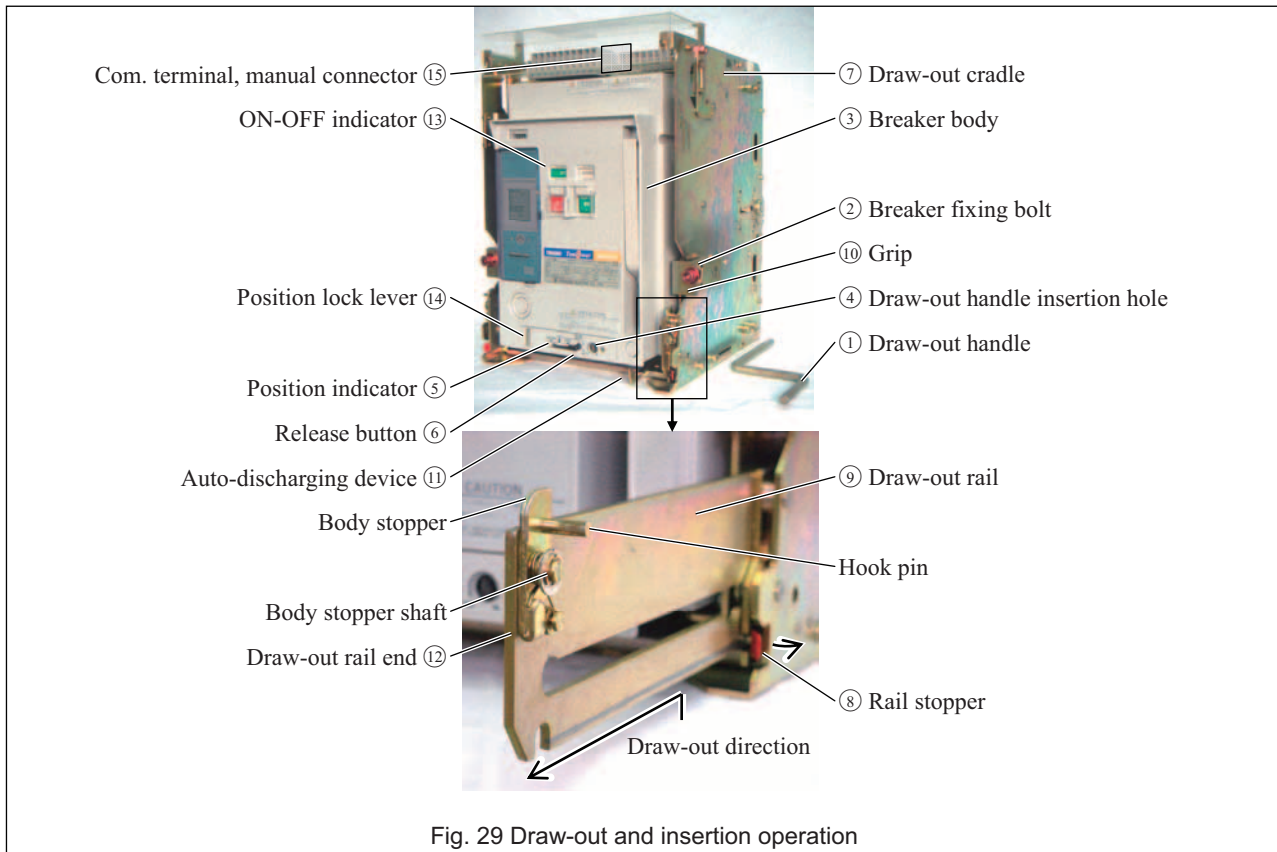

Fig. 29 Draw-out and insertion operation
- 1) Open the ACB. (If the ACB remains closed, the draw-out handle (Fig. 29 ①) cannot be inserted).
- 2) Loosen the breaker fixing bolts (Fig. 29 ②), if used, to unlock the breaker body (Fig. 29 ③).
- 3) Unlock the position lock lever (Fig. 29 ⑭) if locked. See section 4-5.
- 4) Insert the draw-out handle into the draw-out handle insertion hole (Fig. 29 ④). And slowly turn counterclockwise until the handle cannot be turned. The position indicator (Fig. 29 ⑤) shows “TEST”.
- 2) Press the release button (Fig. 29 ⑥). The release button will be locked depressed.
- 4) Insert the draw-out handle into the draw-out handle insertion hole (Fig. 29 ④). And slowly turn counterclockwise until a freewheeling sound is heard. The position indicator (Fig. 29 ⑤) shows “ISOLATED”. Turning the draw-out handle will unlock the release button.
- 1) Make sure the draw-out cradle (Fig. 29 ⑦) is secured with mounting screws.
- 2) Unlock the position lock lever (Fig. 29 ⑭) if locked. See section 4-5.
- 3) Push the rail stoppers (Fig. 29 ⑧) outward on both sides of the draw-out cradle to unlock the draw-out rail (Fig. 29 ⑨), and then uphold and pull out the rail until it stops. The draw-out rail will be locked again by the stoppers. (The breaker body cannot be drawn out unless the rail is locked).
- 4) Holding both the grips (Fig. 29 ⑩), draw out the breaker body until it stops.
- If the ACB is equipped with the communication terminal block, pull out the hand connector (Fig. 29 ⑮) from the communication terminal block while drawing out the breaker body. Make sure the hand connector and control wire of the ACB are not snagged when drawing out the breaker body again.
- If the ACB is equipped with an optional auto-discharging device (Fig. 29 ⑪), the closing springs of the ACB will be automatically discharged with a mechanical sound. This sound does not mean a malfunction.
- 5) Use an optional lifter or lifting plate to transfer the breaker body (Fig. 29 ③) to a safe place. Refer to section 2-1-2.
- 2) Push the rail stoppers (Fig. 29 ⑧) outward on both sides of the draw-out cradle to unlock the draw-out rail (Fig. 29 ⑨), and then uphold and pull out the rail until it stops. The draw-out rail will be locked again by the stoppers. (The breaker body (Fig. 29 ③) cannot be inserted unless the rail is locked).
- 4) Make sure the breaker fixing bolts (Fig. 29 ②), if fitted, are loosened and not arrest the breaker body.
- 5) Make sure the hand connector (Fig. 29 ⑮) of the communication terminal block, if fitted, is so positioned that it does not get caught between the breaker body and the draw-out cradle.
- 6) If the ACB has the breaker fixing bolts (Fig. 29 ②), make sure the bolts are loosened and, holding both the grips (Fig. 29 ⑩), firmly push the breaker body into the draw-out cradle.
- If the ACB is equipped with the communication terminal block, plug the hand connector (Fig. 29 ⑮) into the communication terminal block while pushing the breaker body into the draw-out cradle. Make sure the hand connector and control wire of the ACB are not snagged when pushing the breaker body into the draw-out cradle.
- 7) Push the rail stoppers (Fig. 29 ⑧) outward on both sides of the draw-out cradle (Fig. 29 ⑫) to unlock the draw-out rail, and then push the rail ends to insert the rail until it stops. The draw-out rail will be locked again by the stoppers.
- 1) Make sure the ON-OFF indicator (Fig. 29 ⑬) shows “OFF”. (If the ACB remains closed, the draw-out handle (Fig. 29 ①) cannot be inserted).
- 3) Insert the draw-out handle into the draw-out handle insertion hole (Fig. 29 ④). And slowly turn clockwise until the handle cannot be turned. The position indicator (Fig. 29 ⑤) shows “TEST”. When you turn the draw-out handle clockwise, you can insert the body smoothly by using a hand for holding ACB body until it moves.
- 3) Press the release button (Fig. 29 ⑥). The release button will be locked depressed.
- 4) Insert the draw-out handle into the draw-out handle insertion hole (Fig. 29 ④). And turn clockwise until the handle cannot be turned with its max. operating torque (14.7 N-m). The position indicator (Fig. 29 ⑤) shows “CONN.” Turning the draw-out handle will unlock the release button.
- 6) Tighten the breaker fixing bolts (Fig. 29 ②), if used, to lock the breaker body.